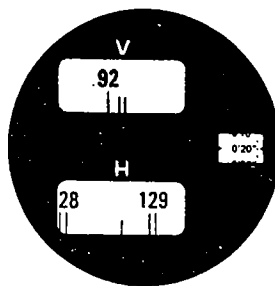
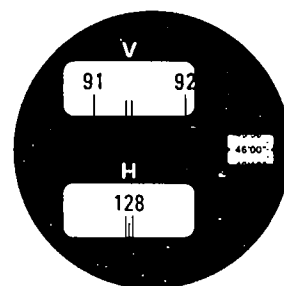
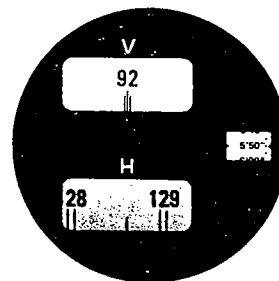

Fig. 13
Fig. 14
Fig. 15
Fig. 13 shows the appearance of the windows after the sighting. H and MS windows are used. In the H window, 128° and 129° graduations are seen on the both sides of the index line. Turn the micrometer knob ⑳ until the index line bisects the double line of either 128° or 129° graduation as in Fig. 14. The MS window shows $46'00''$. The horizontal reading is then $128^{\circ}46'00''$.
After the target is sighted, look at the V and MS windows. Two graduations are seen on the both sides of the double index line (Fig. 14). Turn the micrometer knob until either degree is centered in the double line as in Fig. 15. The zenith angle reading is then $92^{\circ}5'50''$.